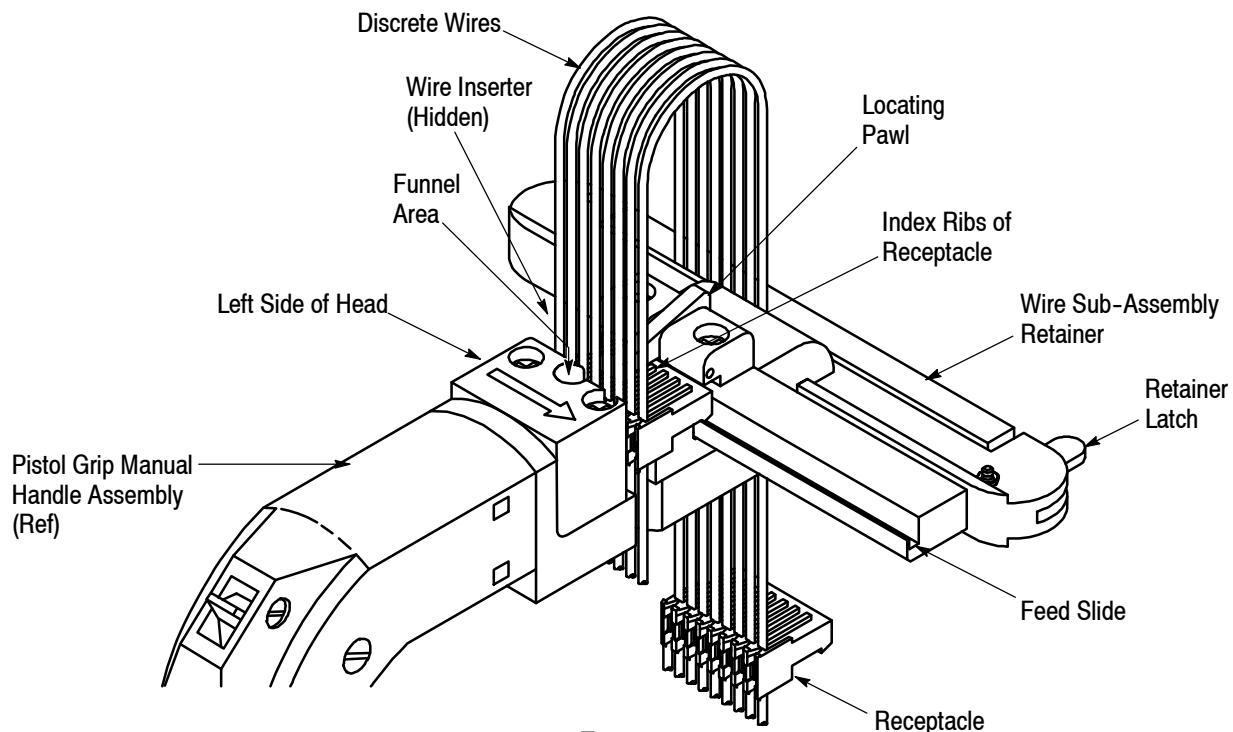

Figure 2
3. Refer to Figure 2, and:
4. Check that the locating pawl is resting between the index ribs of the receptacle. See Figure 2. If not, push the receptacle out of the RIGHT side of the head, and re-insert it.
After making the test crimp, the wire sub-assembly retainer can be used (as shown in Figure 2) to hold and locate the wires during terminations. Pivot the retainer latch to open the retainer.